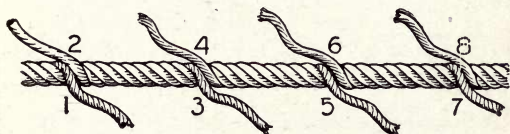

Figure 11
8. Cut all the strands off to a length of about 20 inches, for convenience in manipulation. The rope now assumes the form shown in Fig. 11, with the meeting-points of the strands three feet apart.
For a three-strand rope of the same size, the foregoing method is slightly modified. After tying the twine 9 and 10 around the rope about 6 feet from each end, unlay the strands back to the twine, bring the butts together, and twist the corresponding strands loosely together. Now cut twine 10, and unlay strand 8 for a distance of four and a half feet from the junction, and lay in strand 7. Unlay strand 1, four and a half feet; lay in strand 2, and cut all the strands off to a length of about 20 inches, as before explained for convenience in handling. The splice now assumes an appearance similar to Fig. 11, with the exception that there are only three meeting points of the strands, and these are four and a half feet apart.